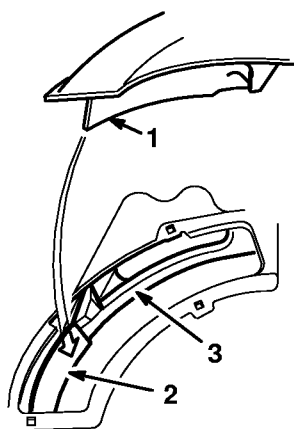

Figure 49
- Place front corner of mulch plate baffle into deck opening. Rotate mulch plate counterclockwise and push down into deck opening (Fig. 49).